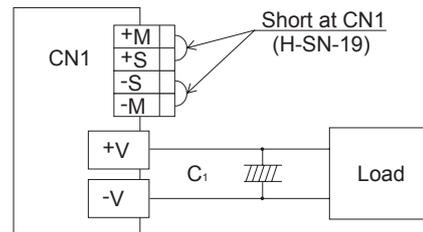
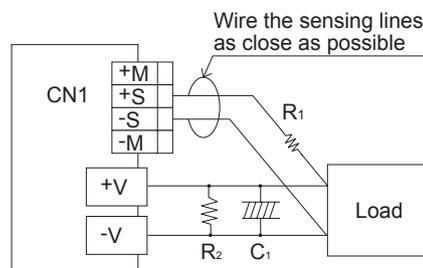

Fig.1.6 When not using remote sensing function
Fig.1.7 When using remote sensing function
- Please see Fig.1.6 if you do not use the remote sensing function. Please see Fig.1.7 if you use the remote sensing function.
- ① Wire carefully. When a connection of a load line becomes loose (due to such factors as loose screw), the load current flows to the sensing line and internal circuits of the power supply may be damaged.
- ② Use a sufficiently thick wire to connect between the power supply and the load and keep the line drop at 0.3V or below.
- ③ If the sensing line is long, connect C1 and R1.
- ④ Use a twisted pair wire or a shielded wire as the sensing line.
- ⑤ Do not draw the output current from +M, -M, +S or -S.
- ⑥ When the remote sensing function is used, the output voltage of the power supply may show an oscillating waveform or the output voltage may dramatically fluctuate because of an impedance of wiring and load conditions. Please check and evaluate carefully before using the remote sensing function. If the output voltage becomes unstable, we suggest you to try the followings.